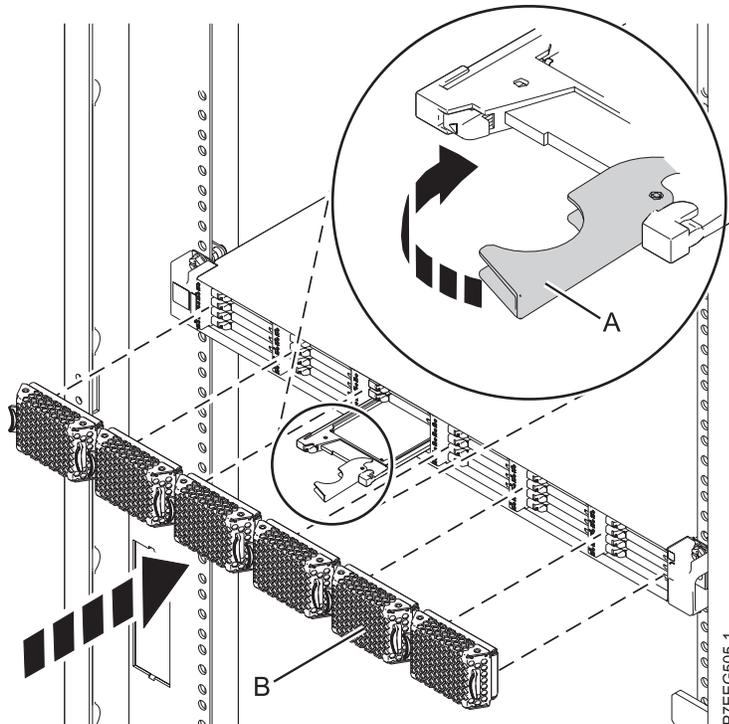

Figure 26. Replacing a solid-state drive in the 58/88 PCIe storage enclosure.
3. Rotate the handle (A) to the locked position, as shown in Figure 26 on page 45.
4. Install the bezel (B).